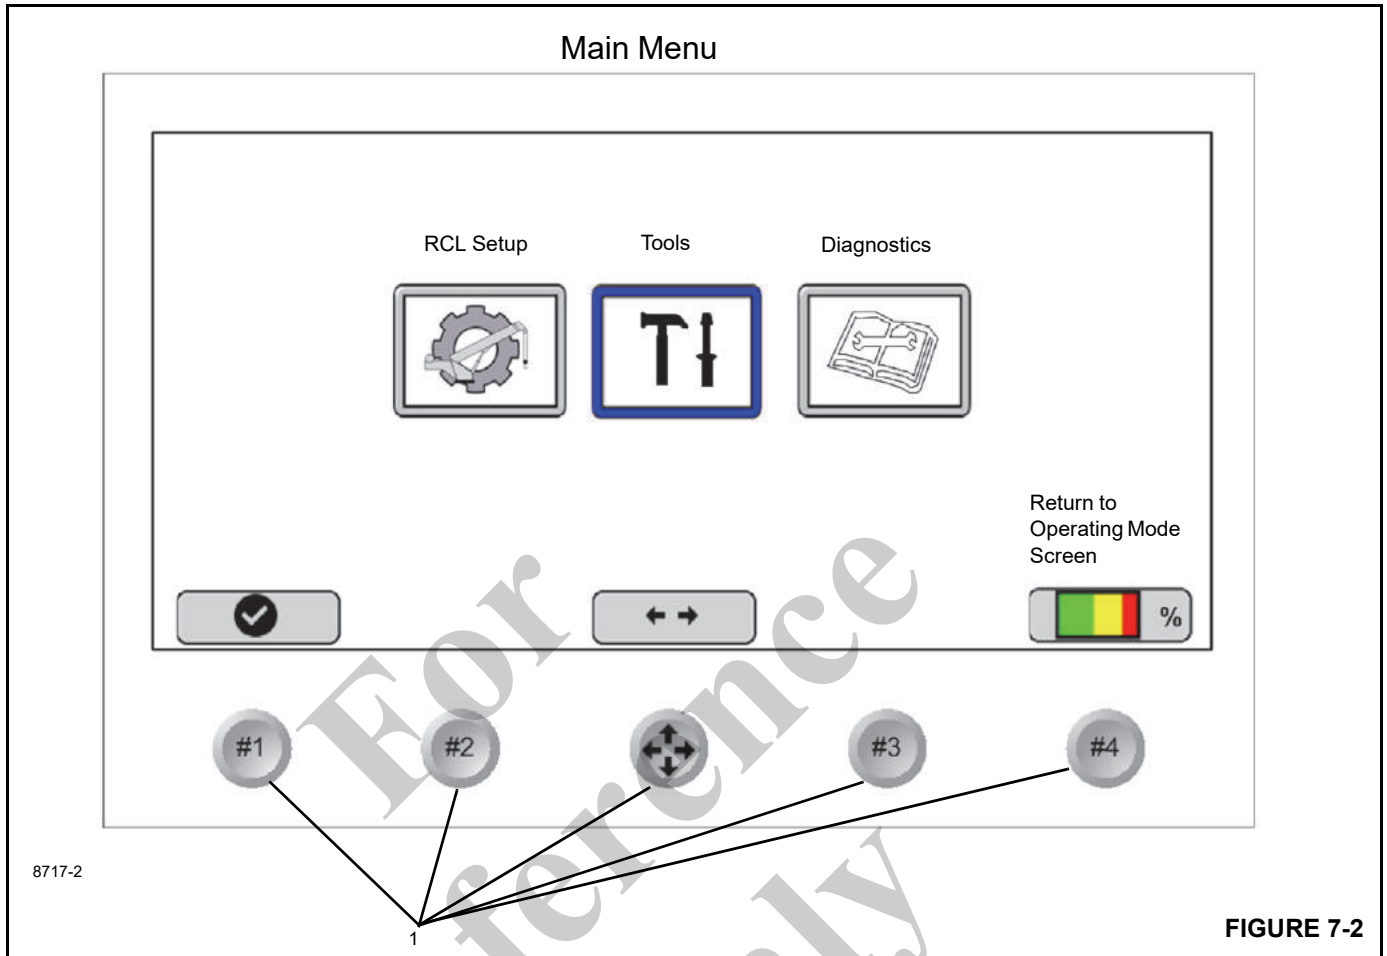

FIGURE 7-2
The **Main Menu** screen (Figure 7-2) is divided into the following three major sections which are used to set-up, operate, calibrate, and troubleshoot the Rated Capacity Limiter (RCL) system. Table 7-1 shows the icons on the Main Menu screen.
RCL Set-Up — Highlight and the press Select function key (Figure 7-2) to configure the RCL system. This screen includes configuration and establishing operational limits for the boom, outrigger, hoist, and reeving. The RCL Setup screen also includes the RCL operating mode screen. For more information about RCL set-up, see “RCL Setup” on page 7-8.
Tools — Highlight and Select function key (Figure 7-2) to access the tools screen, see page 7-16. This screen includes RCL Setup and Sensor Calibration Screens and Measurement Display Information. For more information, see “Tools” on page 7-16.
Diagnostic — Highlight and press the Select function key #3 (Figure 7-2) to access the RCL diagnostic menu, see page 7-20. This menu includes Machine Information and Warnings, Crane Electrical Fault Monitoring, Hour Meter, Load Chart Part Number, Calibration Chart Part Number and Module Input/Output screens with Software Versions and Real-Time Sensor information. For more information, see “Diagnostics” on page 7-20.
The RCL display (Figure 7-2) shows available button functions based on the current screen and the current system status. An icon showing the available functions for each button appears above each button.
The **Main Menu** screen has *function keys* (1, Figure 7-2) that are used to highlight and select the functions shown on the display screen. Table 7-2 describes the RCL function keys.
**NOTE:** On start up of the RCL, the Manitowoc splash screen and the National Crane logo screen appears for a few seconds each before the Main Menu Screen appears (Figure 7-2).